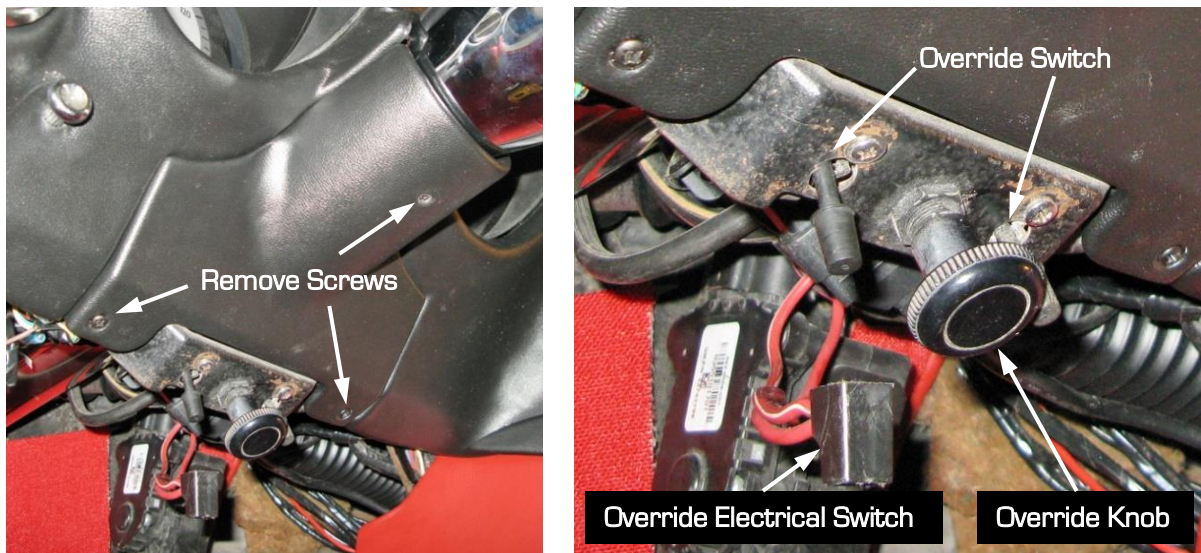

Figure 17 - Remove Lower Column Cover
25. To remove the steering column, start by removing the 2 screws from the lower column cover. **NOTE:** There may be 3 screws if you have an aftermarket steering column. You may find the vacuum override switches and/or the wiper override electrical switch (1968-72) attached to the cover (Figure 17). Remove the lower left hand side dash vent duct.